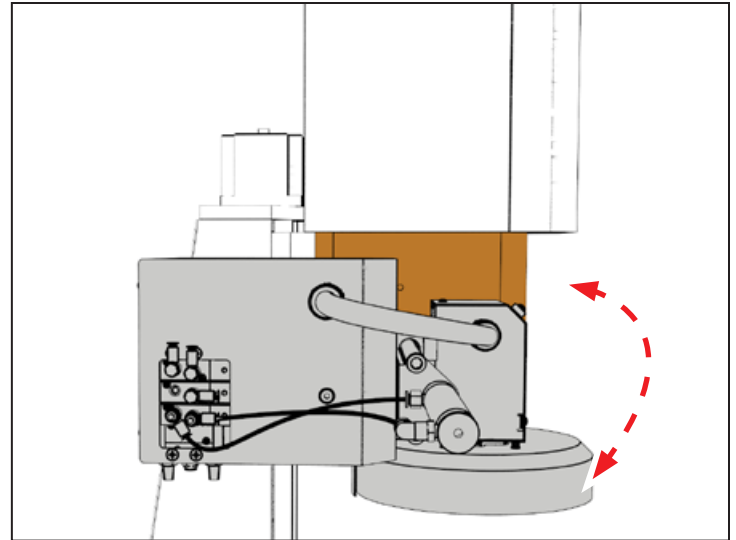

Figure 15
3. On the tilt standoff, use an adjustable wrench to turn the nut until the front side of the motor enclosure is approximately parallel with the mill's spindle head (see **Figure 15**).